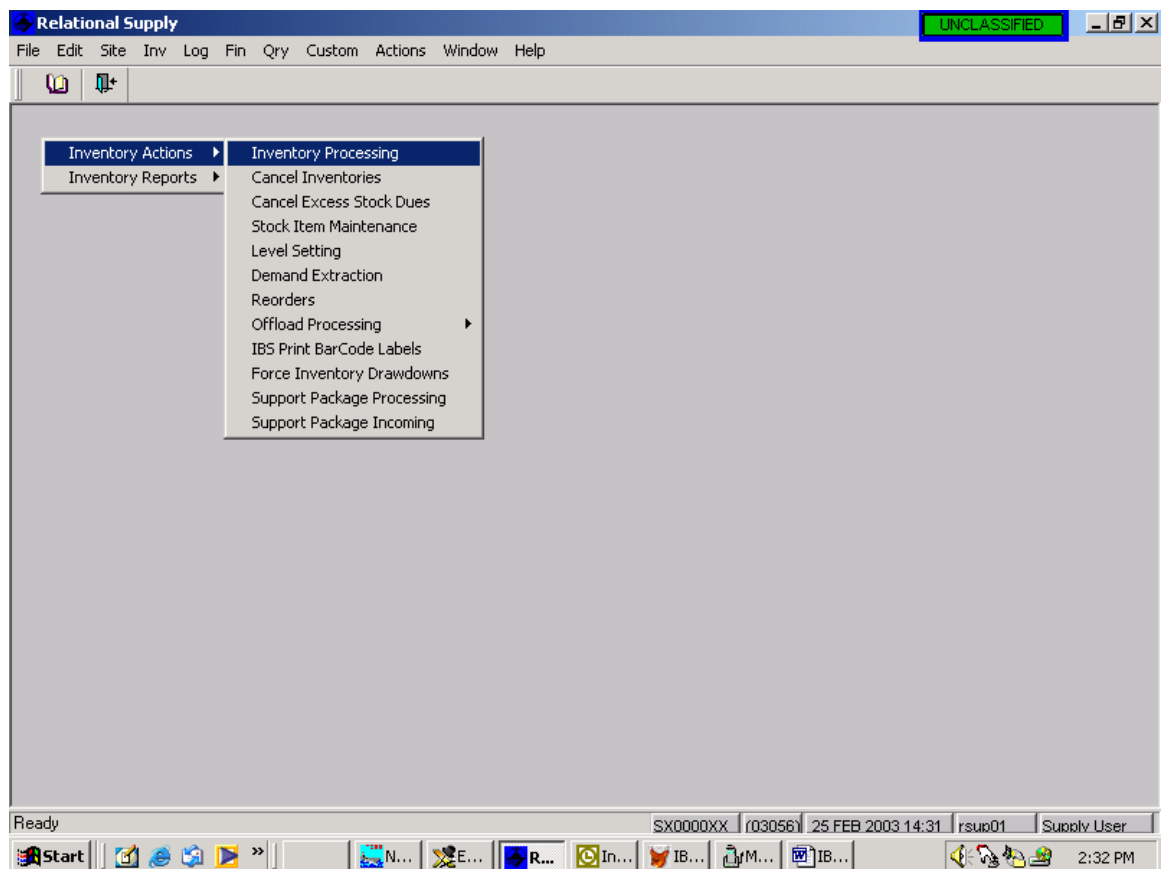

Figure A1
- b. Select Inventory >Management > Inventory Action> Inventory Processing (FIGURE A1)